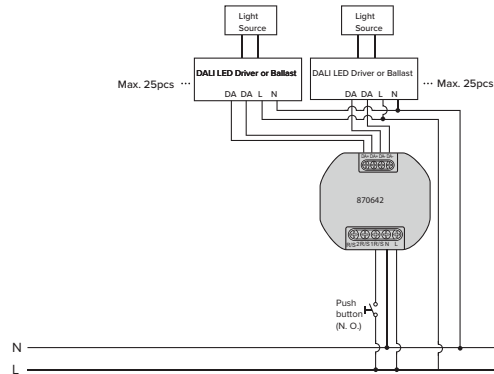
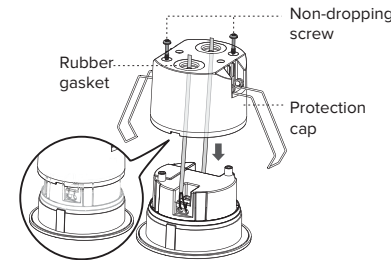

FIG.5
FIG.7
3.4.2 Use screwdriver to break the rubber gasket, then feed cables through it (See FIG.7).
3.4.3 Please refer to illustration of FIG.5 for correct wiring and get the gap of the protection cap to be aligned with the bulge of housing (See FIG.7), then screw the protection cap and fit on the cable clamp.